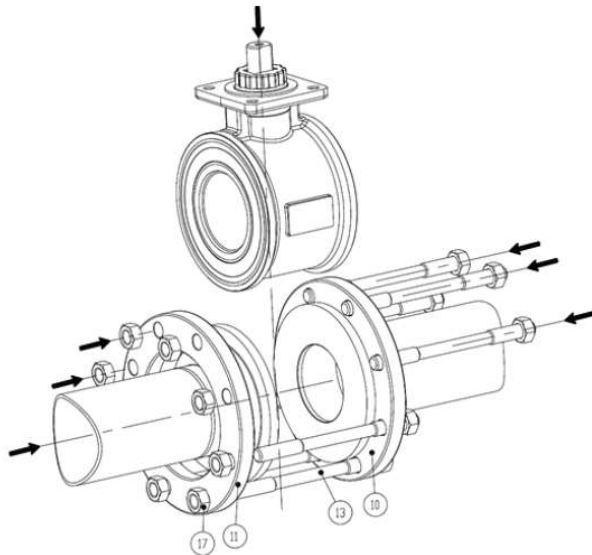
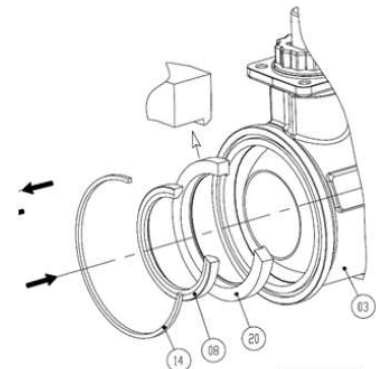
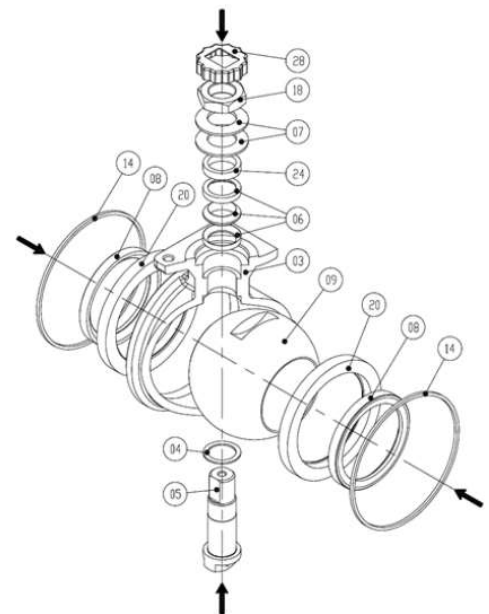

Fig 5
Fig 7
Fig 8
Seats (08), body seals (14), ball (09) replacement (Fig 5 & Fig 7)
1. Unscrew nuts (17) and boltings (13)
3. Operate a 90° turn in order for the ball (09) to be in the closed position
4. Push the ball (09) out of the valve body. Seat supports (20) are also pushed out
5. Take the seats (08) out of the seat supports (20)
6. Take body seals out (14)
When re assembling the seats (08) and seat support (20), make sure it is done as per shown on figure 7
Packing (06) and stem seal (04) replacement (Fig 5, Fig 7 & Fig 8)
1. Unscrew one screw (13) and take it out with the spacer (12) and the nut (17) to allow valve body to be taken out
3. Operate 90° to allow the ball (09) to be in the close position
4. Push the ball (09) outside of the body. Seats (08) will be pushed as well
5. Take out Nut lock (28) and unscrew the nut (18)
6. Take spring washers (07) and gland (24)
7. Push the stem (05) inside the valve the stem seal keep staying on the stem
8. Take out stem (05) and replace stem seal (04)
9. Take out packing (06) from valve body and replace with a new one